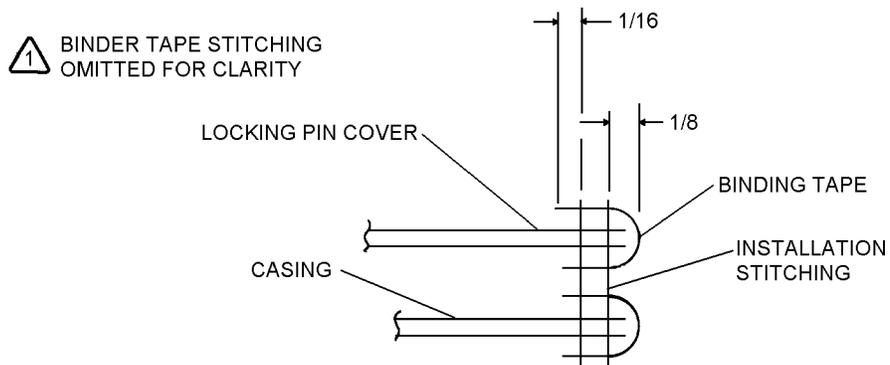

Figure 27-17. Locking Pin Cover Installation
4. Align locking pin cover with mating surface of casing assembly and install in accordance with figure 27-17.